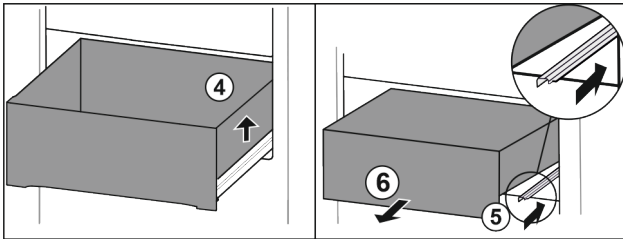

Fig. 88
- ▶ Lift drawer on the right. Fig. 88 (4)
- ▶ Slide in right rail. Fig. 88 (5)
- ▶ Remove drawer to the front. Fig. 88 (6)